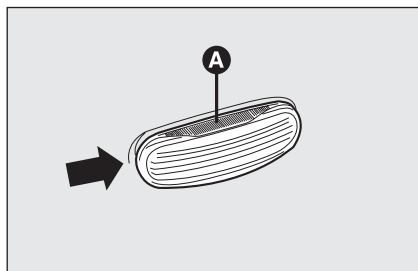
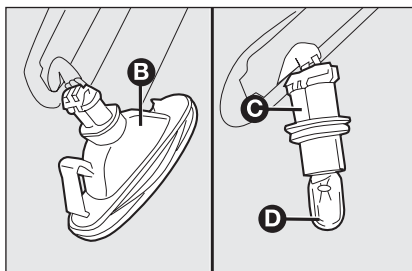

fig. 27
fig. 28
- ☐ push the lens **A**-fig. 27 to compress the internal catch **B**-fig. 28. Then, pull the unit outwards;